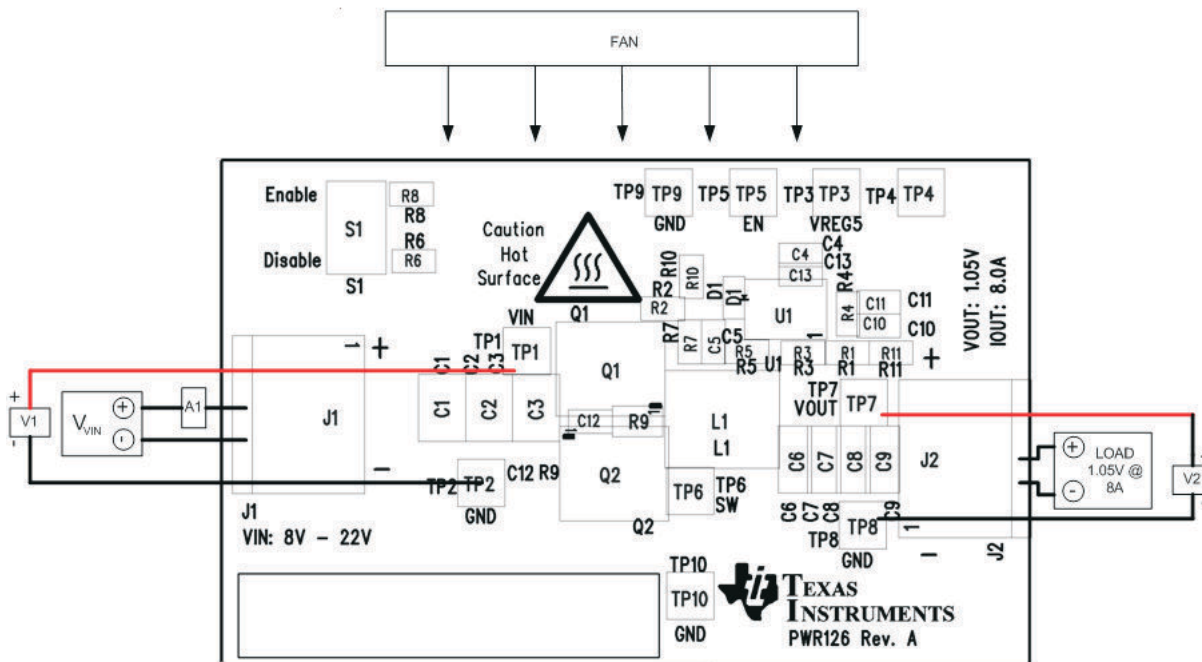

Figure 5-2. TPS53015EVM-126 Recommended Test Setup
- **VIN:** The input voltage source,  $V_{IN}$ , should be a 0-V to 30-V variable DC source capable of supplying 2 ADC. Connect VIN to J1 as shown in Figure 5-2.
Figure 5-2 is the recommended test setup to evaluate the TPS53015EVM-126. Working at an ESD workstation, make sure that any wrist straps, bootstraps, or mats are connected referencing the user to earth ground before power is applied to the EVM.
- Prior to connecting the DC input source  $V_{IN}$ , it is advisable to limit the source current from  $V_{IN}$  to 2-A maximum. Make sure  $V_{IN}$  is initially set to 0 V and connected to J2 as shown in Figure 5-2.
**Other Connections:** Place a fan as shown in Figure 5-2 and turn on, making sure air is flowing across the EVM.
1. Set up the EVM as described in Section 5 and Figure 5-2.